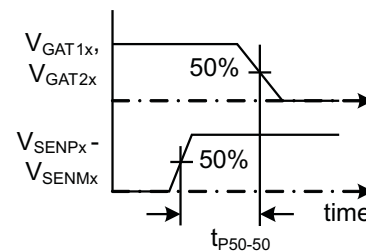

Figure 3. t_{p50-50} Definition
(3) See Figure 3 for timing definition.